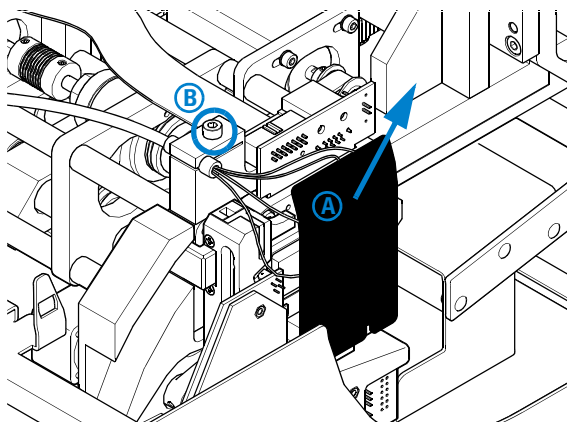

Figure 39
4 Remove the capillary cover (A) and open the thumb screw of the strain relief (B). See Figure 39.